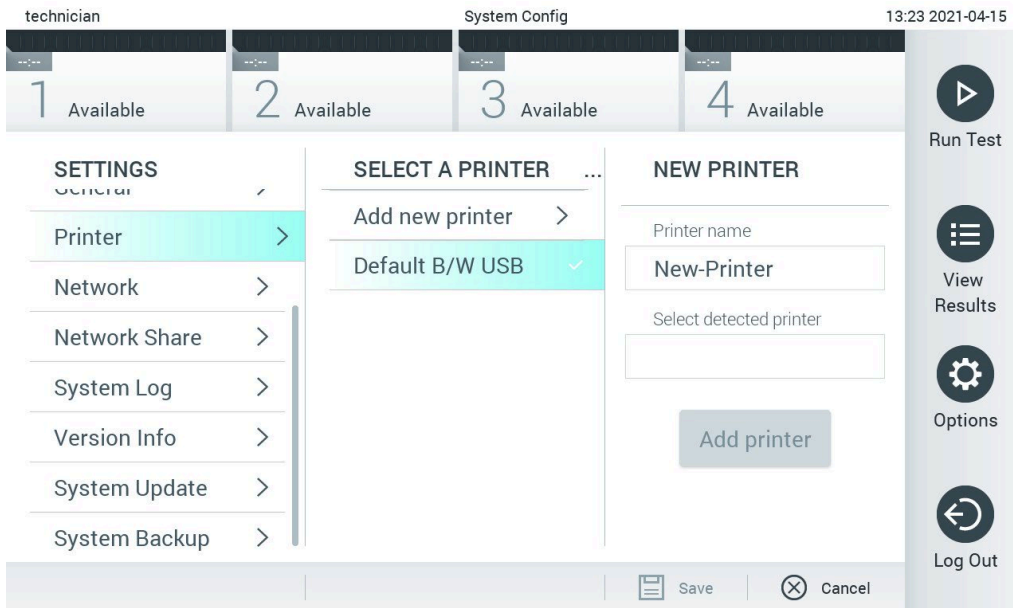

Figure 101. Printer installation with driver installation
5. Click **Add Printer** (Figure 101).